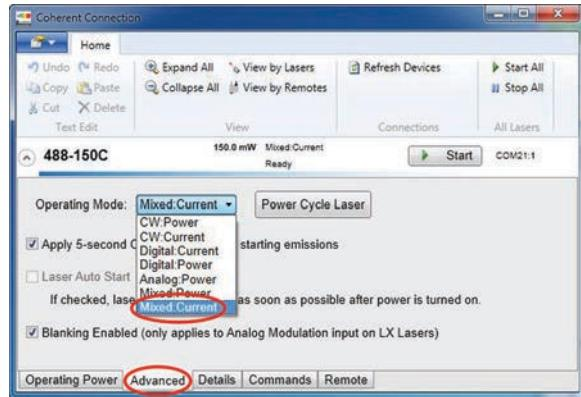

Figure 4-24. Select Mixed Modulation Mode
3. For high-speed modulation, the OBIS LX offers Mixed:Current mode to drive the laser in an open-loop control (see Figure 4-24).